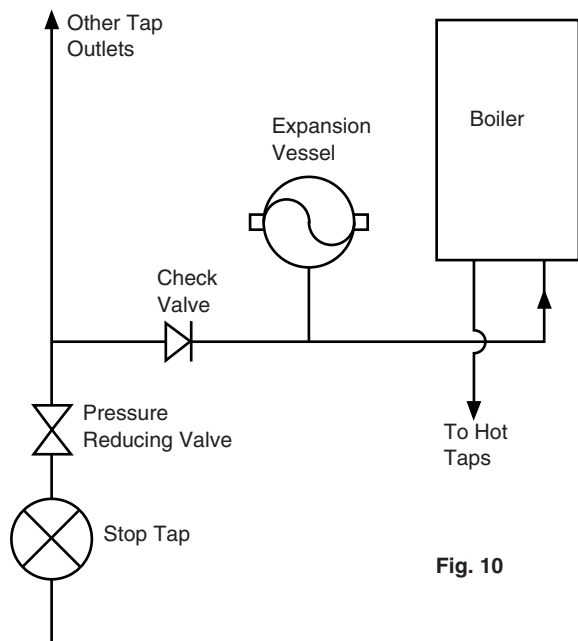

Fig. 10
3. A single check valve must be fitted as shown in Fig. 10 to prevent backflow to the supply pipe and to ensure the efficient operation of the expansion vessel which is required to accommodate the thermal expansion of the water.